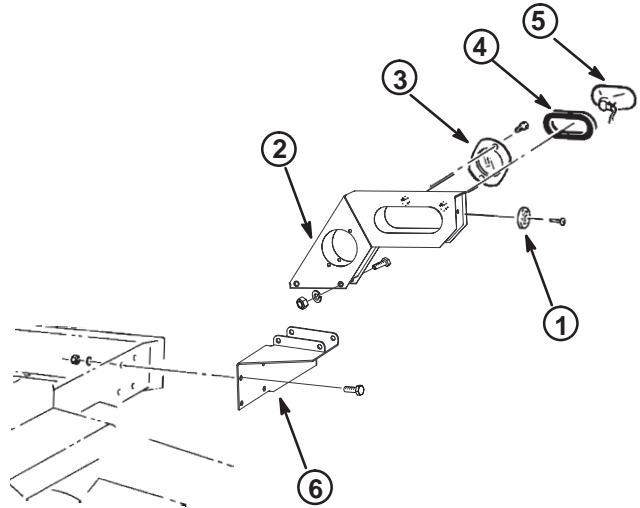

Figure 5
1. Mount a 2" red reflector to the end of each light arm with a #10-24 x 1/2" lg. machine screw and a Keps nut (Fig. 5).
2. Mount a 3" red reflector to the front of each light arm with (2) #10-24 x 1/2" lg. machine screws and Keps nuts (Fig. 5).
3. In the front of each light arm, install a rubber grommet in each tail light mounting hole (Fig. 5).
4. Install a tail light into each grommet (Fig. 5).
5. Mount a left or right light mount bracket to frame with (4) 3/8-16 x 1" lg. flange head screws, 3/8" lockwashers and 3/8" hex nuts (Fig. 5).
6. Mount each light arm to bracket with (2) 3/8-16 x 3-3/4" lg. flange head screws, 3/8" lockwashers and 3/8" hex nuts (Fig. 5).